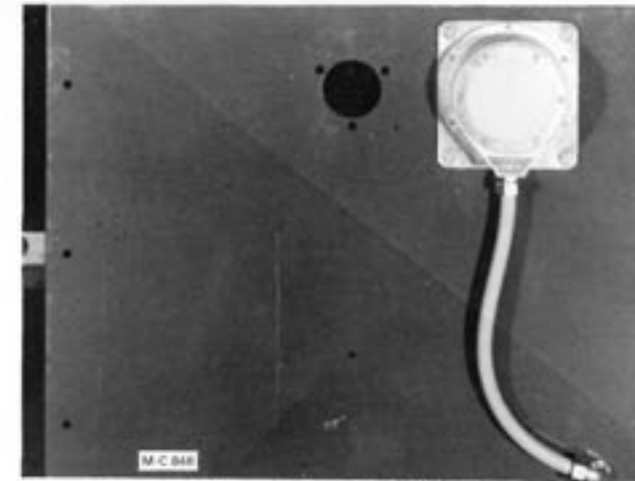
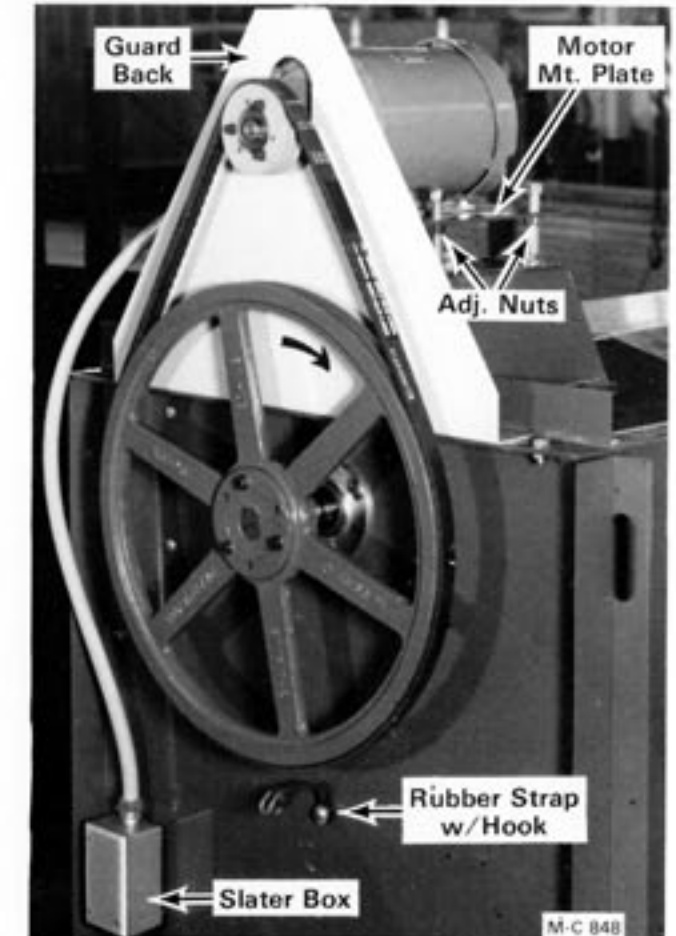

Figure 2 - Bin Switch
Figure 3
1. Install the bin level indicator (with flexible conduit) to the inside of the hopper front end panel with $\frac{1}{4}$ -20 x $\frac{1}{2}$ " truss head screws and two-way locknuts, see Figure 2. Secure the 90° fitting with nut provided and thread the Slater junction box (Figure 3) onto the 90° fitting.
2. Put four $\frac{1}{2}$ -13 x $3\frac{1}{2}$ " full thread capscrews in the level auger motor mount and lock in place with flanged locknuts. Thread a $\frac{1}{2}$ -13 hex nut onto each capscrew and install the motor mount plate with motor, see Figure 3.
3. Install the level auger guard back as shown in Figure 3. Install a $\frac{1}{4}$ " x $1\frac{1}{2}$ " key in the level
11. Install the rubber strap with hook to the front end panel as shown in Figure 3. Hook the level auger guard over the top of the guard back and secure with rubber strap and hook.
1. Connect the flexible conduit to the bottom of the Slater junction box on the hopper front end panel, see Figure 3.